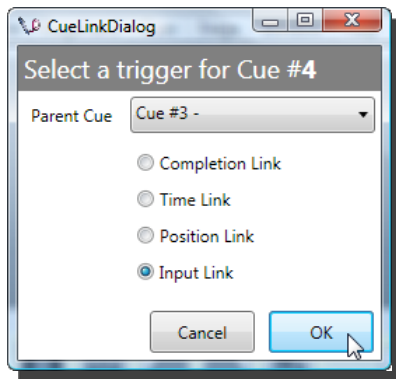

Figure 163
2. Select the **Parent Cue** from the drop-down list and select **Input Link**, then press **OK** (Figure 163).